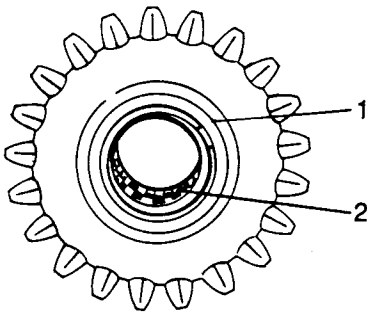

Fig H1.133
(1) Refer to Fig H1.133. Remove the spring ring (1) from one of its sides.
(2) Extract the two roller bearings and the two adjusting washers (2).